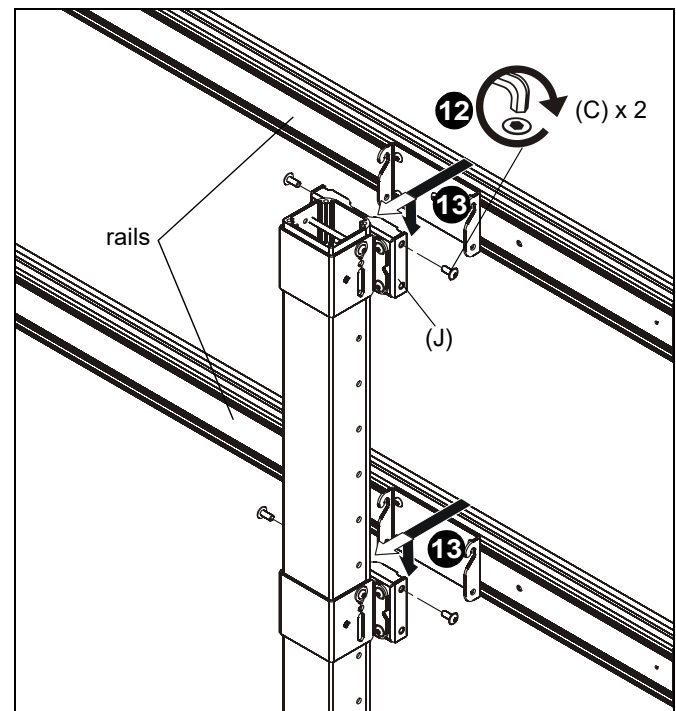

Figure 8
12. Install two 5/16-18 x 3/4" button head flange screws (C) into the top holes on each quick connect base (J). (See Figure 8)
13. Hang rails into screws installed in previous step to quick connect bases (J). (See Figure 8)